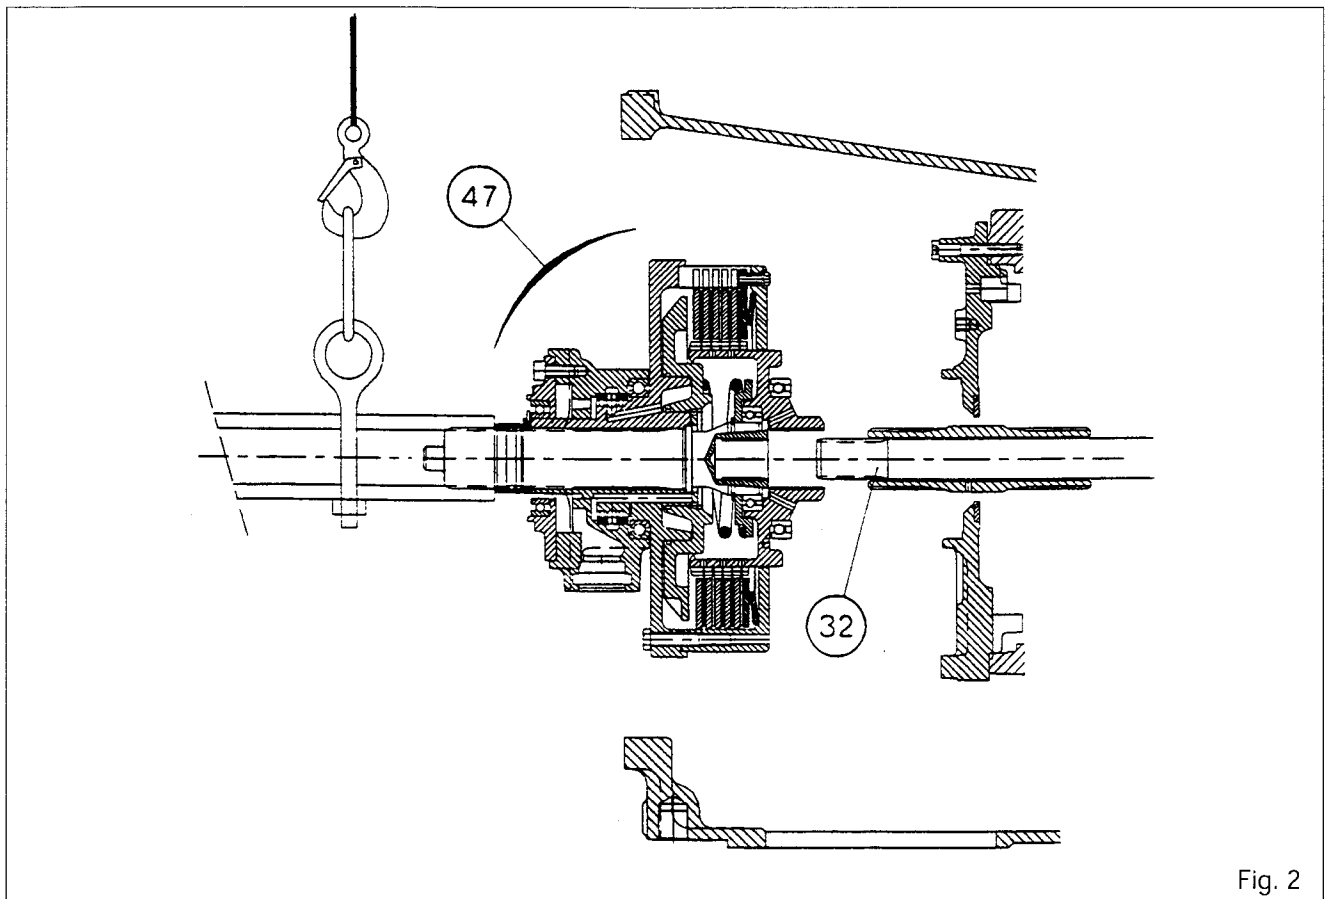

Fig. 2
7. Place the O-ring (1) between bushes (2). Reinstall the splined bush (3). Replace the circlip (58) and position it correctly in the recess.
8. Check that the shims (9) are in place.
15. Remove the pipes (73) and (76), detach the cover (61), remove the flange (19) and the pipe (17).
16. Remove the clutch assembly (47) using a locally manufactured tool (Fig. 2).
17. Remove the PTO shaft (32).
18. Replace O-rings (14) and (69).